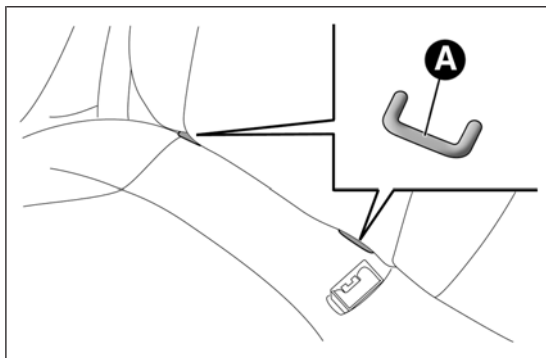

fig. 101
- ☐ secure the child seat to the dedicated lower metal rings A fig. 101, positioned between the backrest and the cushion of the rear seat;